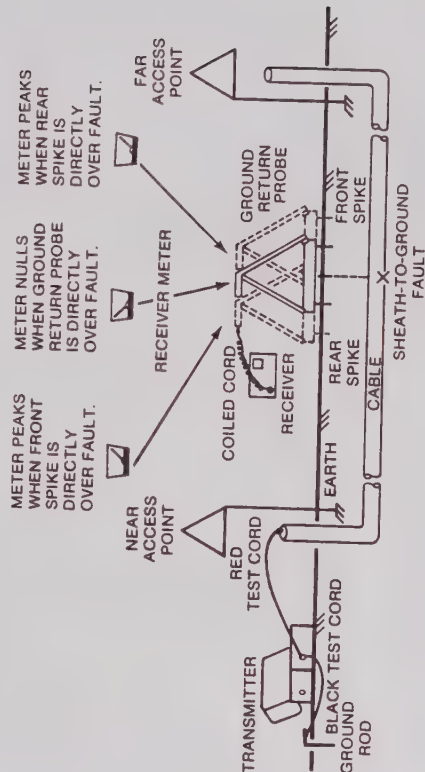

Figure 3-1.
3. Connect the black test cord clip to the ground rod (see Figure 3-1).
4. Plug the jack end of the red/black test cord into the RED/BLACK TEST CORD jack receptacle on the transmitter (see Figure 3-1).
The meter readings will rise as you probe until a maximum (PEAK) level is reached (see Figure 3-1). Periodically adjust the GAIN control knob on the receiver to prevent meter readings greater than 10. When you reach the PEAK meter reading, change the distance between probings from 6 inches to 2 inches. While continuing to probe, the meter readings will now begin to fall until a minimum (NULL) level is reached (see Figure 3-1).